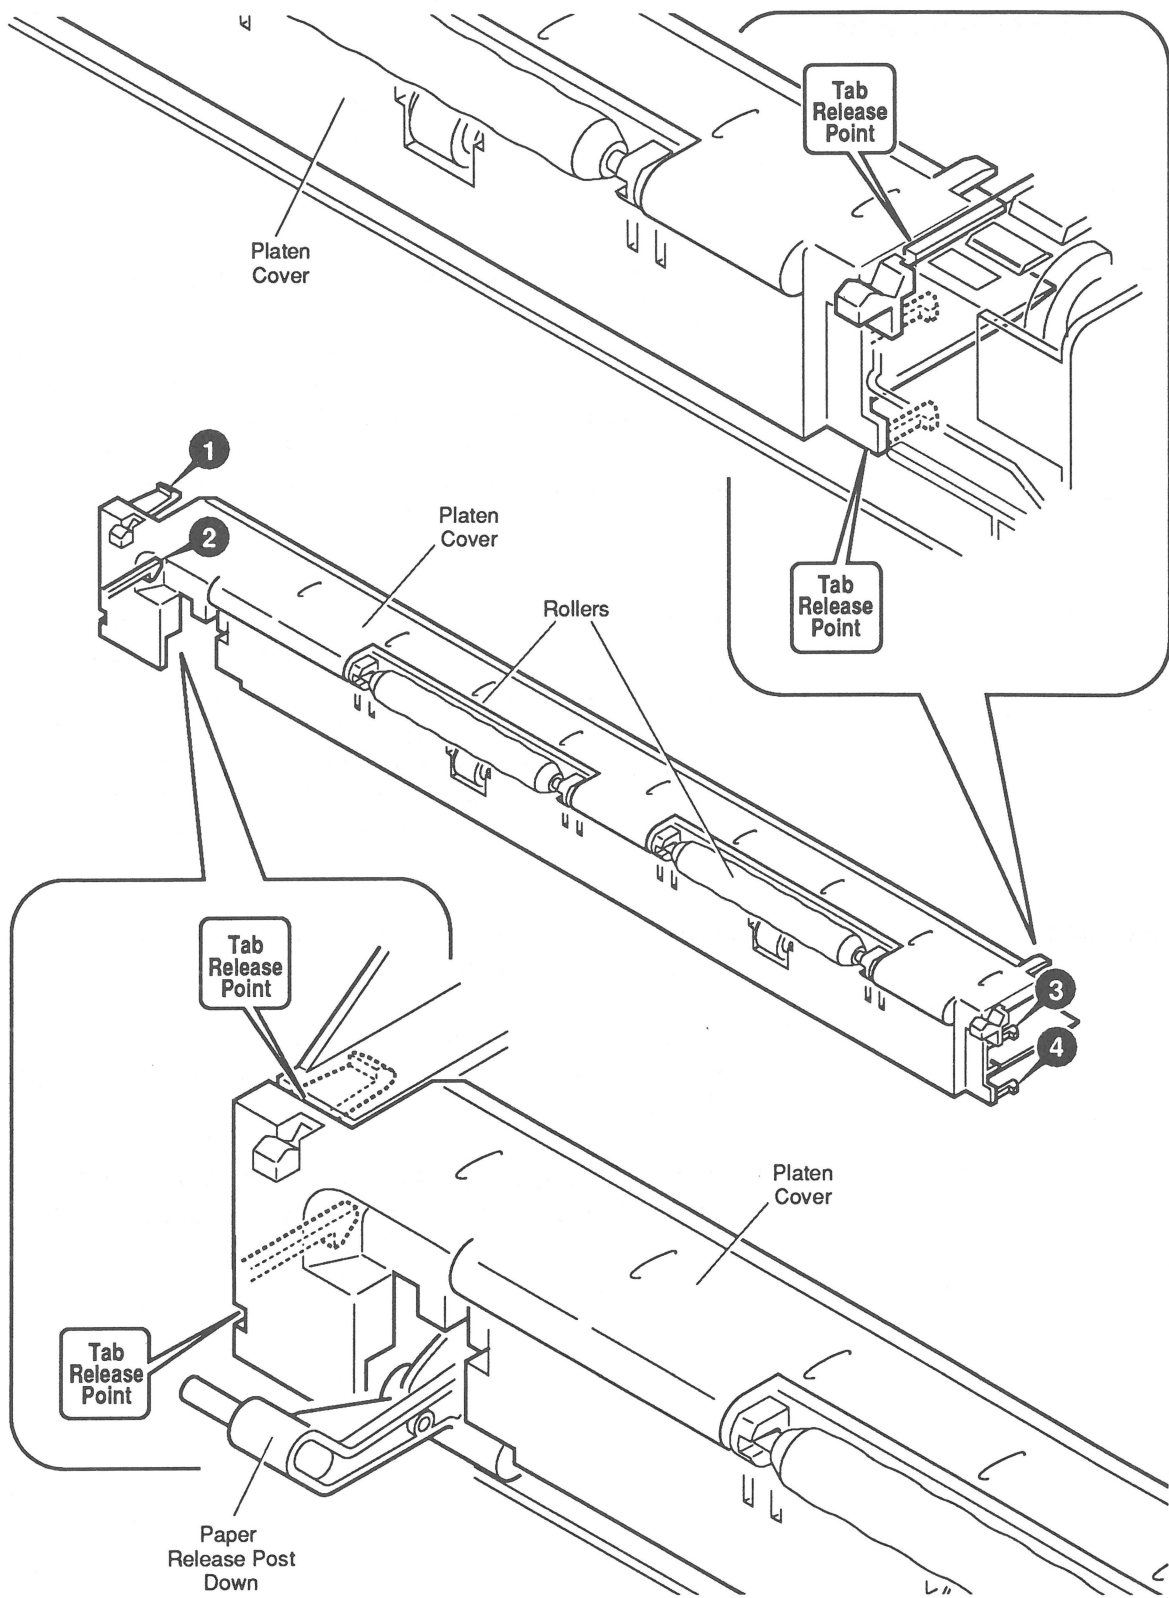

Figure 2-9 Platen Cover and Rollers
3. Before going on, examine **Figure 2-9** to familiarize yourself with the placement of the four tabs (#1, #2, #3, and #4) that hold the platen cover in place, and the location of the tab release points on the printer frame (shown in the upper and lower closeups). Only the lower right tab (#4) is visible from the outside when the platen cover is in place.
4. Using a precision (jeweler's) screwdriver, **carefully** free the upper-left tab (#1) at the tab release point indicated in the lower figure closeup (**Figure 2-9**).